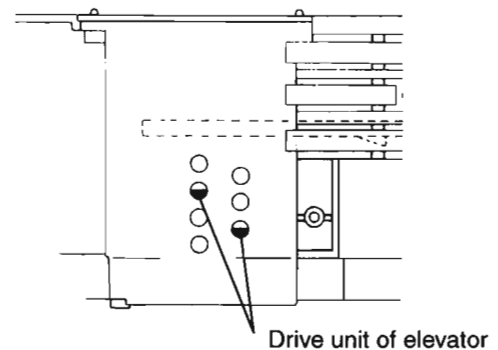
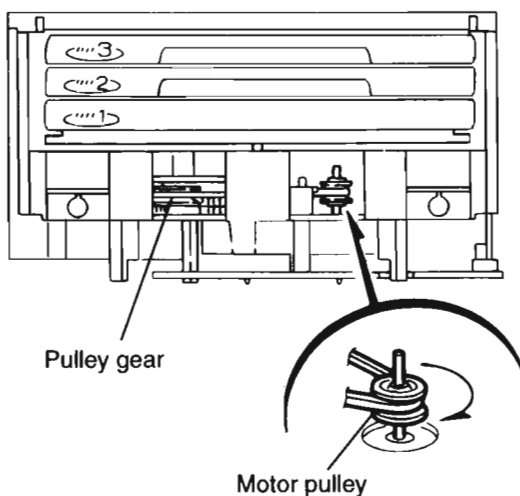

Fig.7
Fig.8
- [Caution]** In case the driver unit elevator is not at above position, set the elevator to the position as shown in Fig.7 by manually turning the pulley gear as shown in Fig.8.
13. Manually turn the motor pulley in the clockwise direction until the lifter unit stopper is lowered from the section "E" of CD tray assembly(See Fig.8).